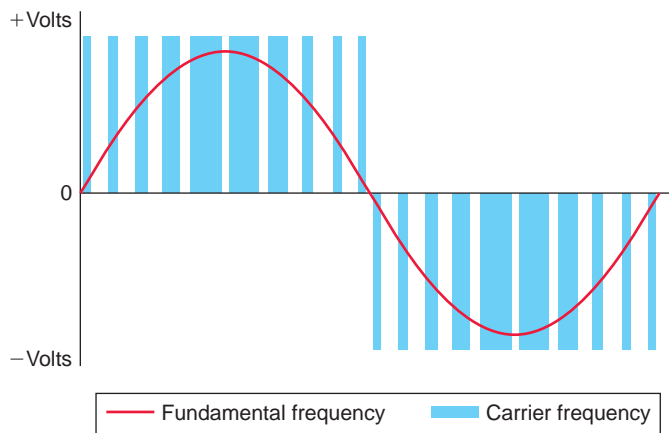

Figure 10-7 Sine-wave line voltage superimposed on the PWM inverter output.
Figure 10-7 shows the sine-wave (AC) line voltage, superimposed on the pulsed inverter output, or simulated AC. Notice that the pulses are the same height for each pulse. This is because the DC bus voltage the drive uses to create these pulses is constant. Output voltage is varied by changing the width and polarity of the switched pulses. Output frequency is adjusted by changing the switching cycle time. The resulting current in an inductive motor simulates a sine wave of the desired output frequency. Most true RMS-measuring multimeters are fast enough to measure the RMS value of the PWM voltage and current.